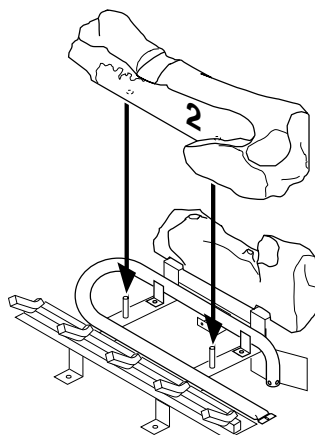

Figure 43 - Installing Log No. 2
3. Rest log #2 (large front log) on the pins on the front part of the grate (see Figure 43).